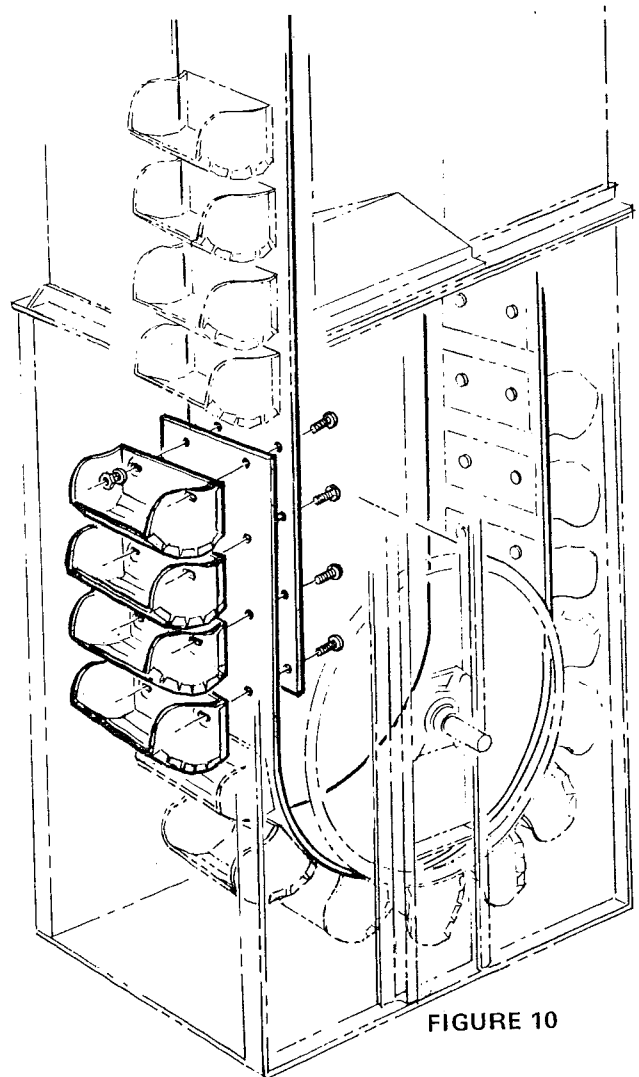

FIGURE 10
3. Pull the rope around the boot pulley till the belt is around far enough to splice. See Figure 10.